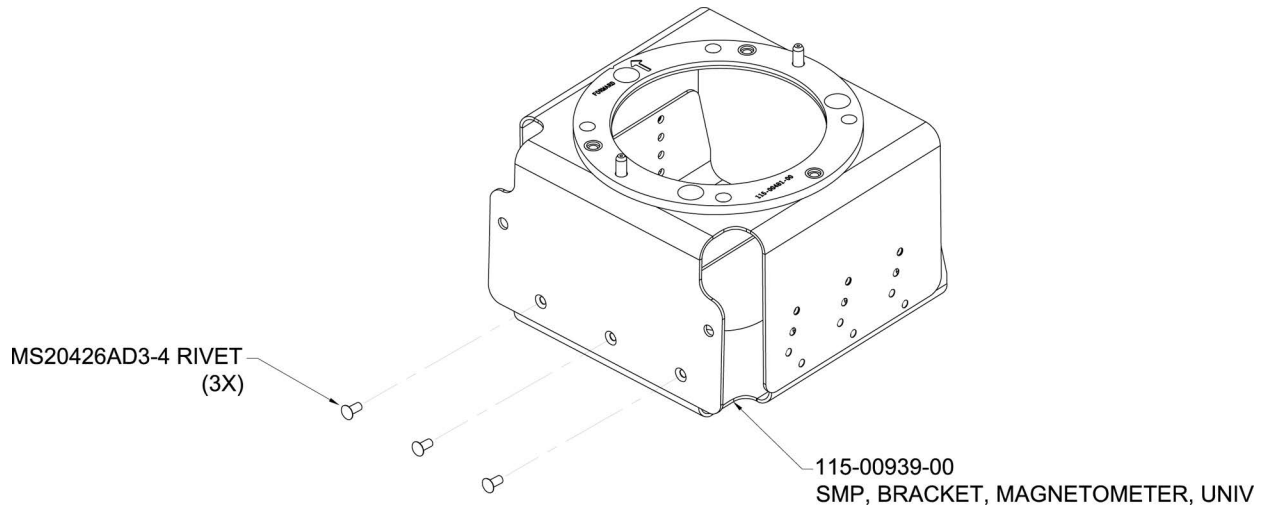

Figure B-10 Lancair IV/IV-P GMU 22 Mounting Bracket Assembly
- Rivet the Top Bracket Assembly (115-01017-00) to the Universal Bracket Assembly (115-00939-00) as shown in Figure B-10 and Figure B-11.